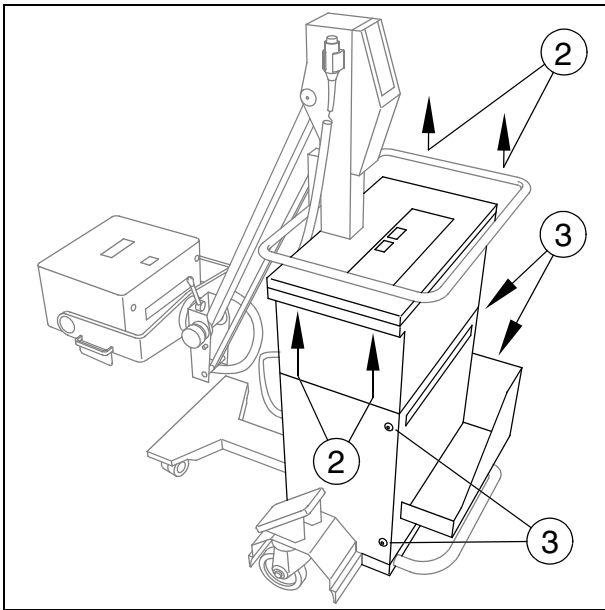

Fig. 4
- Remove the four Allen screws at the bottom of the switchbox cover (2/Fig.4) and remove the cover.
- After removing the four panel screws (3/Fig.4), remove the bottom cover at the front with the cassette tray.